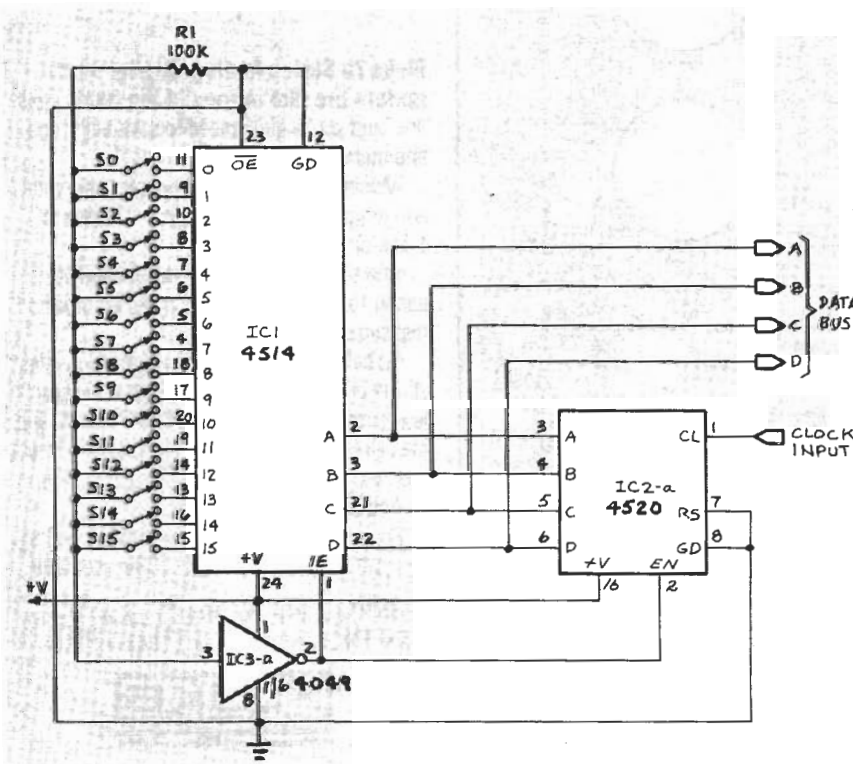

FIG. 2
Figure 2 shows the schematic of the keyboard encoder we'll use for our remote-control system. The 4514 is a 4- to 16-line decoder with normally low outputs. When a 4-bit binary word is presented at its A-D inputs, the corresponding decoded 0-15 output goes high. Pin 1 is an active-high input enable (IE), and pin 23 is an active-low output enable (\overline{OE}) control. In normal operation, pin 1 must be high and pin 23 must be low. The 4520 is a dual synchronous 4-bit binary counter. We've used it so often that you should be able to recite its pinout in your sleep.